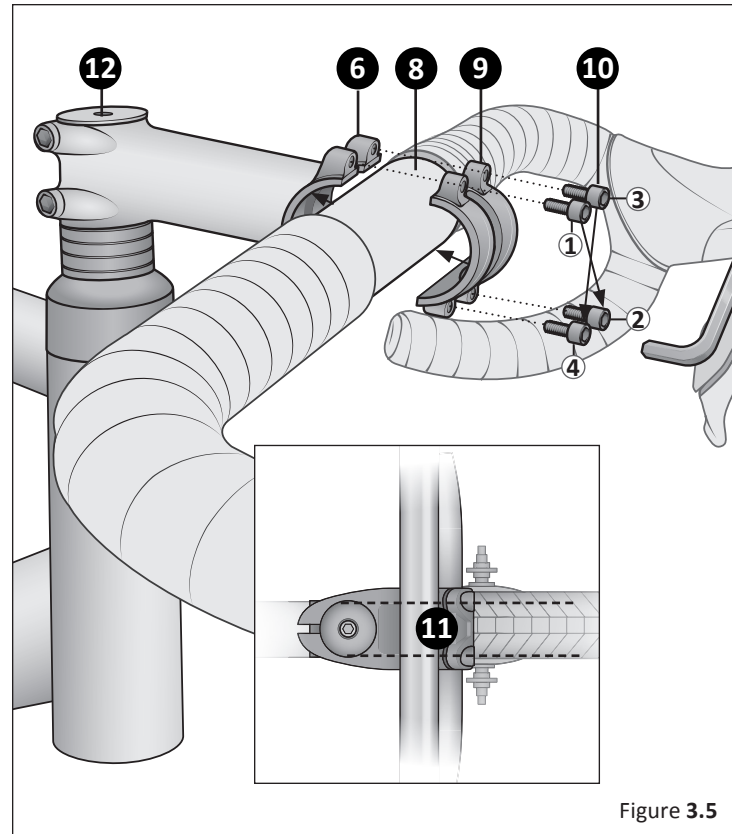

Figure 3.5
- 6 Loosen and remove the pinch bolts holding the face plate on the front of the stem. **Figure 3.5**